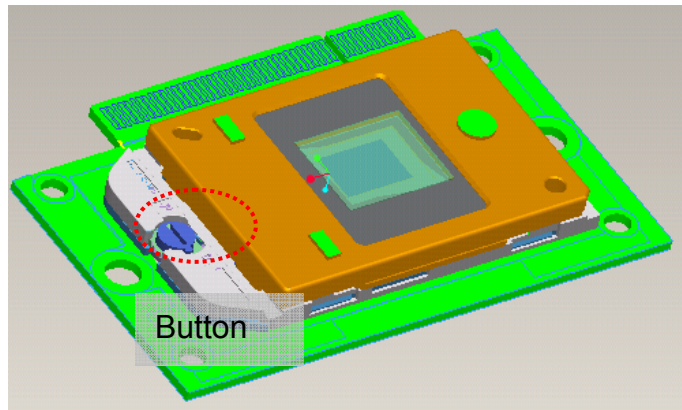

Fig. 8-4
8.3. Push DMD slightly and use screwdriver rotate button to lock DMD on Chip B/D (Fig. 8-4)